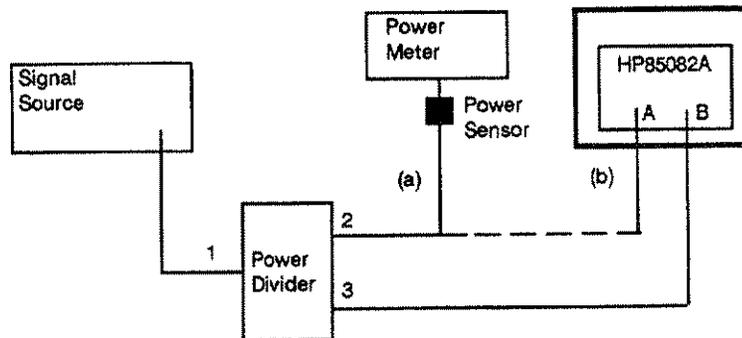

Figure 4-6. Voltage Accuracy Equipment Setup
1. Configure the equipment as shown in Figure 4-6 step (a), with the power meter connected to port 2 of the power splitter and Channel B of the HP 85082A connected to port 3 of the power splitter.
4. Reconfigure the equipment as shown in Figure 4-6 step (b), with Channel A of the HP 85082A connected to port 2 of the power splitter.